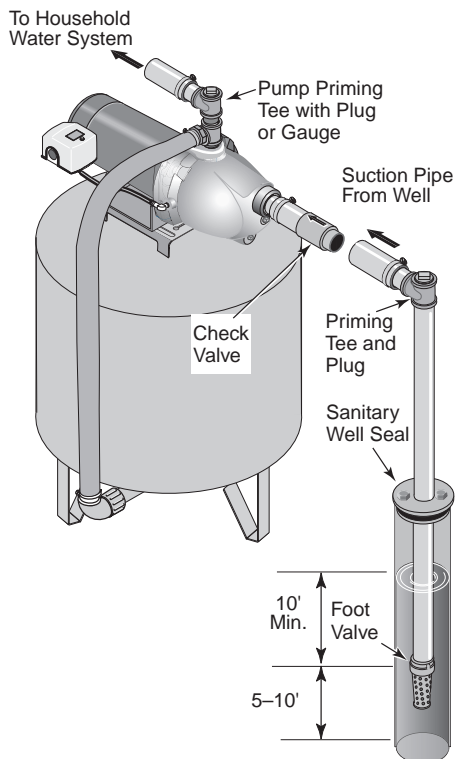

Figure 2: Cased Well Installation
Cased Well Installation, 2" or Larger Casing (Figure 2)
2. Assemble the foot valve, strainer, and well pipe (see Figure 2). Make sure that the foot valve works freely.
4. Install a priming tee, priming plug, and suction pipe to the pump (see Figure 2). Connect the pipe from the well to the pump suction port, using the fewest possible fittings – especially elbows – as fittings increase friction in the pipe (however, include a foot valve – see Figure 2). The suction pipe should be at least as large as the suction port on the pump. Support the pipe so that there are no dips or sags in the pipe, so it doesn't strain the pump body, and so that it slopes slightly upward from the well to the pump (high spots can cause air pockets which can air lock the pump). Seal the pipe joints with Teflon™ tape or a Teflon™ based pipe joint compound. Joints must be air- and water-tight. If the suction pipe can suck air, the pump cannot pull water from the well.